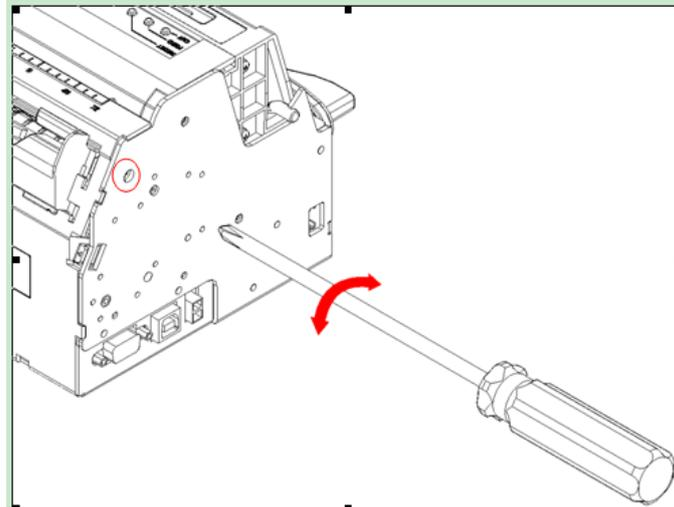

Figure 4.3-1 Adjusting mark sensor
- 1) Rotate the cross screw driver deep in the printer in the direction shown in the figure 4.3-1 to adjust the position of mark sensor;
To ensure the printer is well grounded, connect the grounding cable as showed in the figure 4.3-1.